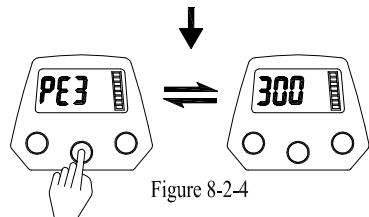

Figure 8-2-4
4. Each time the "MENU" is pressed to change a line number, "PE2", "PE3", "PE4", "PE5" and the standard line capacity of selected are cycled appears (Figure 8-2-4).